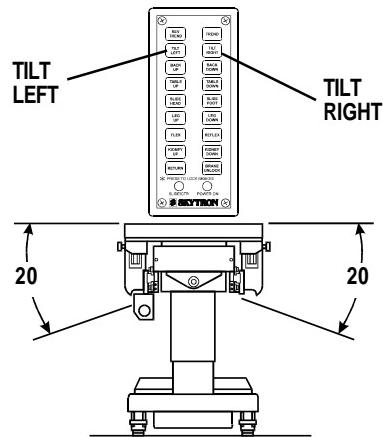

Figure 2-5. Lateral Tilt Positioning
**c. Lateral Tilt.** To achieve lateral tilt right (as viewed from the head end of the table), press the TILT-RIGHT button (figure 2-5). Tilt of up to 20° may be obtained. To achieve lateral tilt left, press the TILT-LEFT button. Tilt of up to 20° may be obtained.